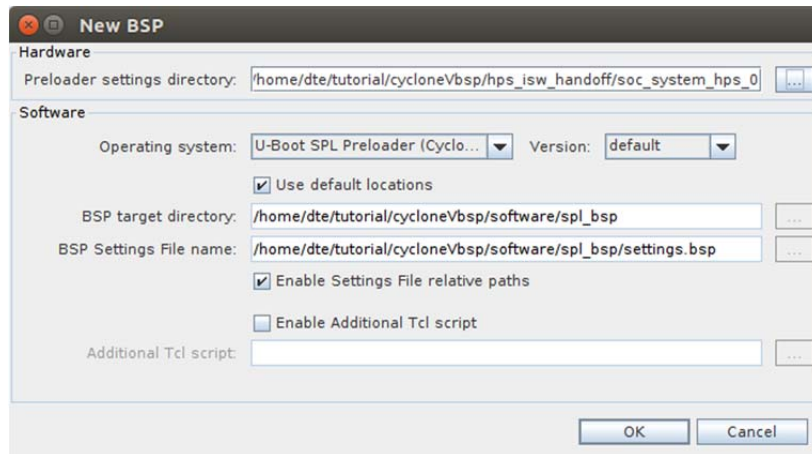

Fig. 41: New BSP Dialog
6. "Use default locations" checkbox and under the "BSP target directory". You should have something similar to Fig. 41.